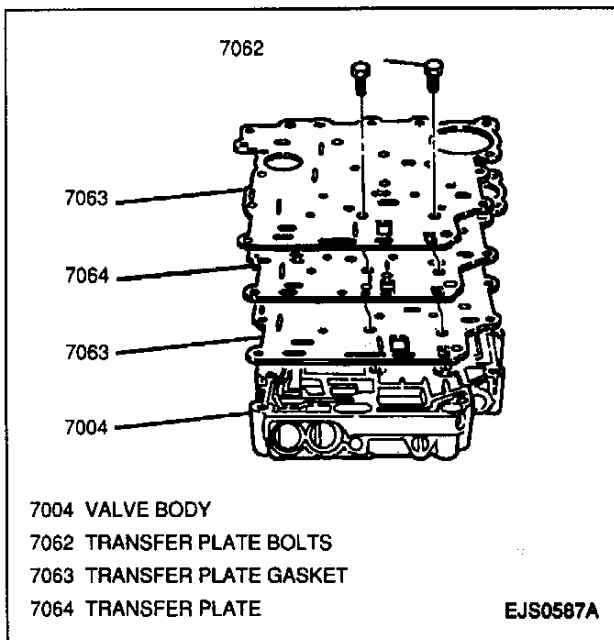

Figure 67—Removing Transfer Plate Retaining Bolts (3L30, 3-Speed)
2. Two bolts, transfer plate and transfer plate gaskets from valve body (Figure 67).
9. New transfer plate gaskets and transfer plate onto valve body using the J 3387-2 to align the transfer plate and gaskets; secure with two bolts (Figure 67).